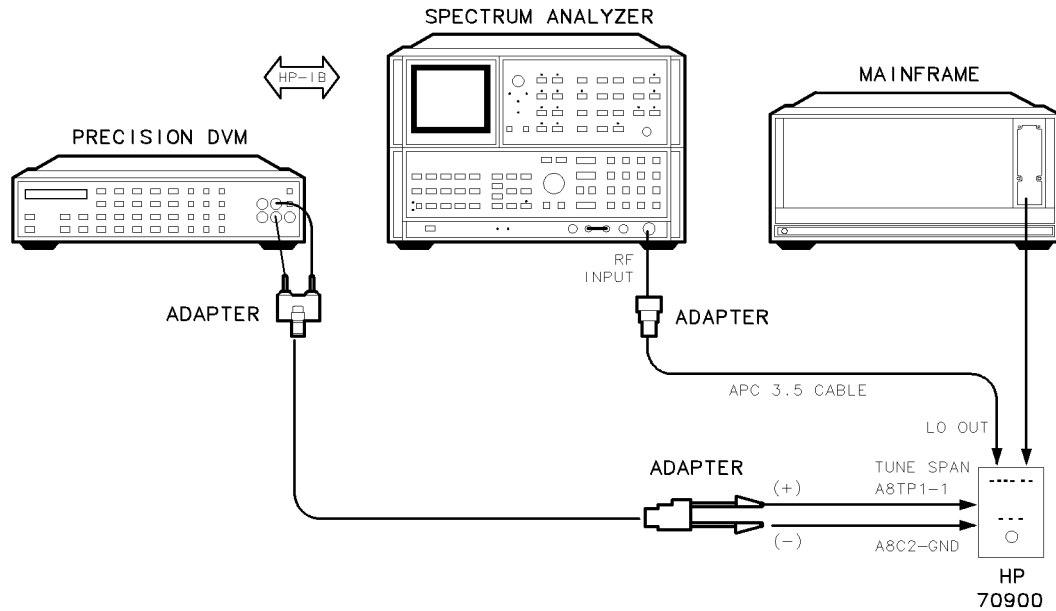
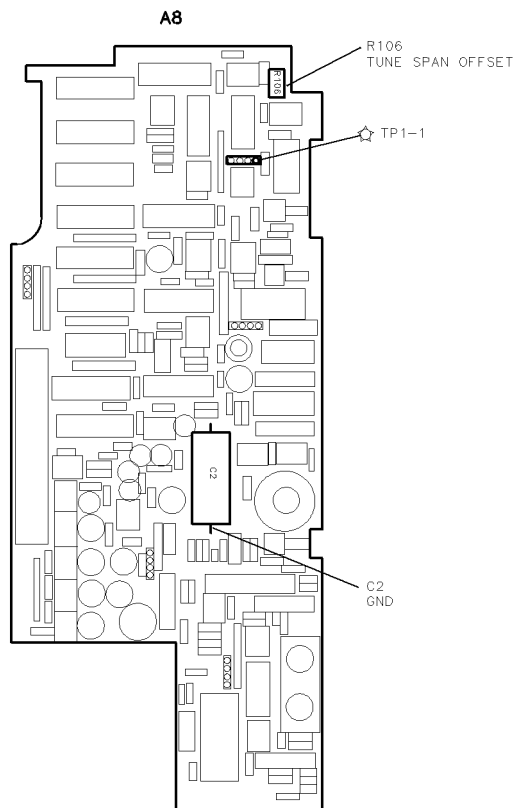

Figure 6-37. Equipment Setup for Adjustment 21. Tune + Span Offset
Figure 6-38. Locations for Adjustment 21. Tune + Span Offset
1. Remove the HP 70900B local oscillator source's cover and connect the equipment as illustrated in Figure 6-37. The DVM ground lead connects to the grounded side of A8 frequency control (C2) and the positive lead connects to A8 frequency control (TP1-1). See Figure 6-38.
- g. Refer to Figure 6-40 for the location of A6A2 YTO lock (J5-1); refer to Figure 6-38 for the location of A8 frequency control (C2).